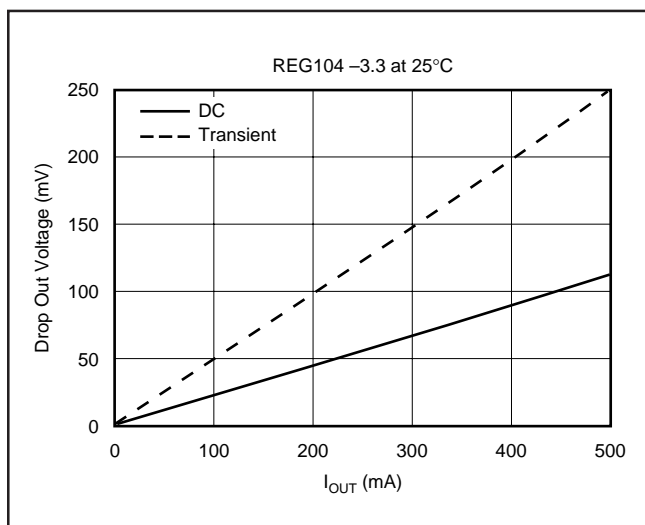

FIGURE 8. Transient and DC Dropout.
The REG104 uses an N-channel DMOS as the *pass* element. When the input voltage is within a few hundred millivolts of the output voltage, the DMOS device behaves like a resistor. Therefore, for low values of  $V_{IN}$  to  $V_{OUT}$ , the regulator's input-to-output resistance is the  $R_{DS(ON)}$  of the DMOS pass element (typically 230m $\Omega$ ). For static (DC) loads, the REG104 will typically maintain regulation down to  $V_{IN}$  to  $V_{OUT}$  voltage drop of 230mV at full rated output current. In Figure 8, the bottom line (DC dropout) shows the minimum  $V_{IN}$  to  $V_{OUT}$  voltage drop required to prevent dropout under DC load conditions.
For large step changes in load current, the REG104 requires a larger voltage drop across it to avoid degraded transient response. The boundary of this *transient dropout* region is shown as the top line in Figure 8. Values of  $V_{IN}$  to  $V_{OUT}$  voltage drop above this line insure normal transient response.